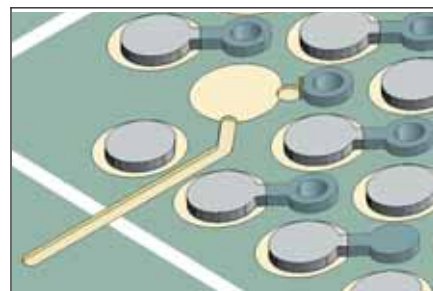

Figure 1 Cut the connection to the via using a drill system.
3. Cut the short conductor (dog bone) connecting the BGA pad to the connecting via using a drill system or milling machine and appropriate size end mill. (See Figure 1 and 6.)